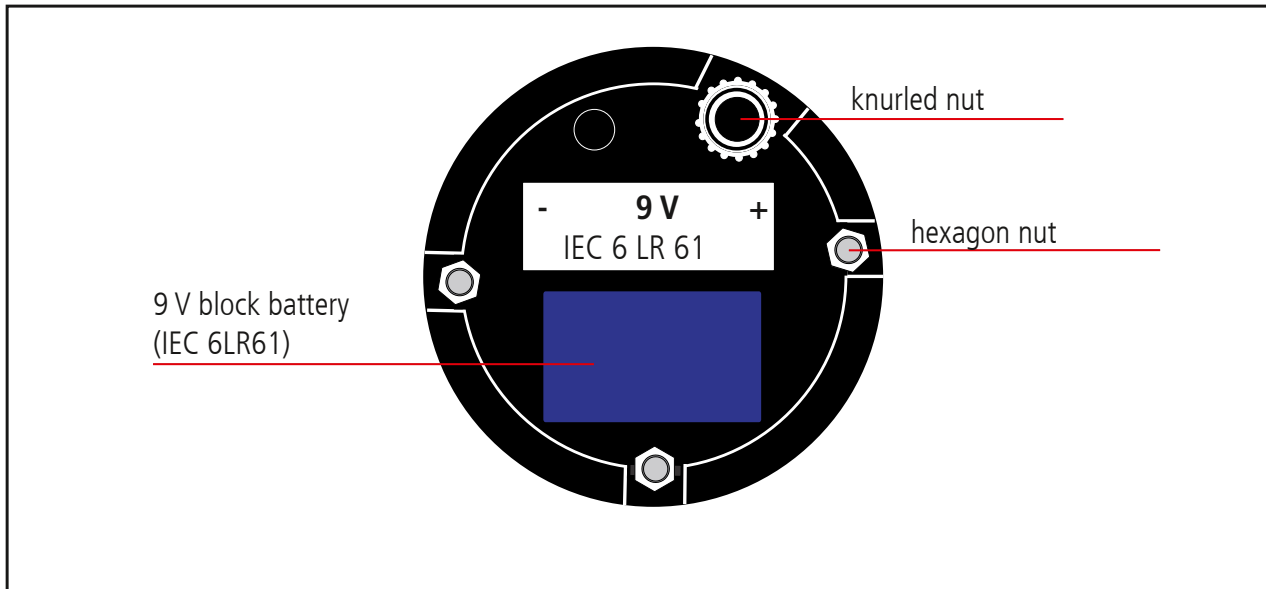

Fig. 9.5 Lower part of the electronic element
- 9.4 Before assembling the indicator, ensure tight fit of the hexagon nuts screwed to the electronic element as well as the knurled nut. If nuts (hexagon or knurled nut) are loose or missing, withdraw the voltage detector (indicator) from service and send it to DEHN + SÖHNE for repair (see Fig. 9.5)!